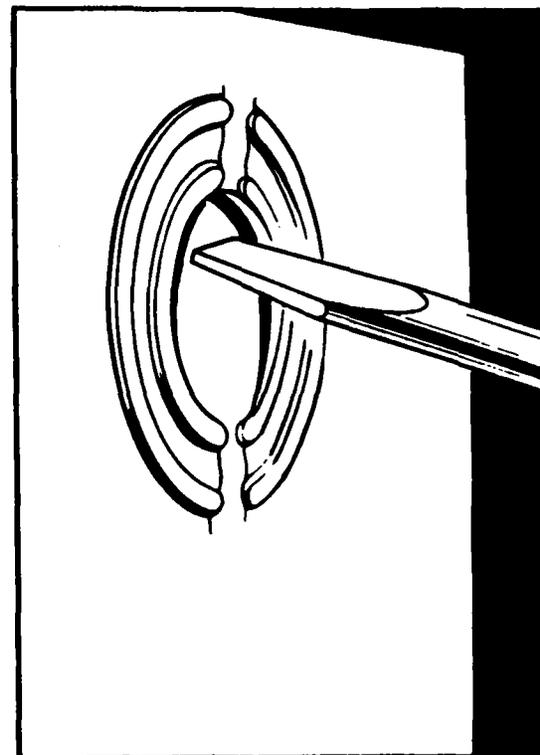

Figure 3-1
- a. Place screwdriver blade against point farthest from tie and strike INWARD (Figure 3-1). Bend back and forth to break tie.